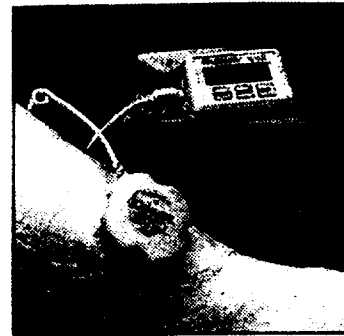

Fig. F.5.B
- e. After applying the gel, immediately place the THM in the RAF by lining up the grooved silver section on the barrel surface of the THM with the black dot (●) on the side of the RAF (Fig. F.5.A). While applying gentle pressure, turn the THM approximately a 1/4 turn in either direction until it is secured in place. You will feel the THM attach securely as the grooves of the silver section of the THM engage with the metal spring of the RAF to lock the THM in place (Fig. F.5.B). If the THM is not correctly seated in the RAF, remove it and apply it again.